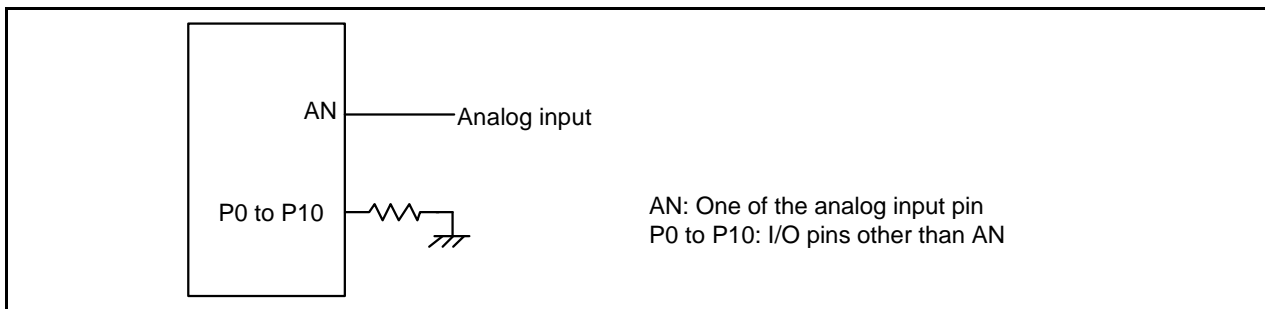

Figure 5.3 A/D Accuracy Measure Circuit
2. Flash memory rewrite disabled. Except for the analog input pin, set the pins to be measured as input ports and connect them to V_{SS} . See Figure 5.3 "A/D Accuracy Measure Circuit".
4. Flash memory rewrite disabled. Except for the analog input pin, set the pins to be measured as input ports and connect them to V_{SS} . See Figure 5.3 "A/D Accuracy Measure Circuit".